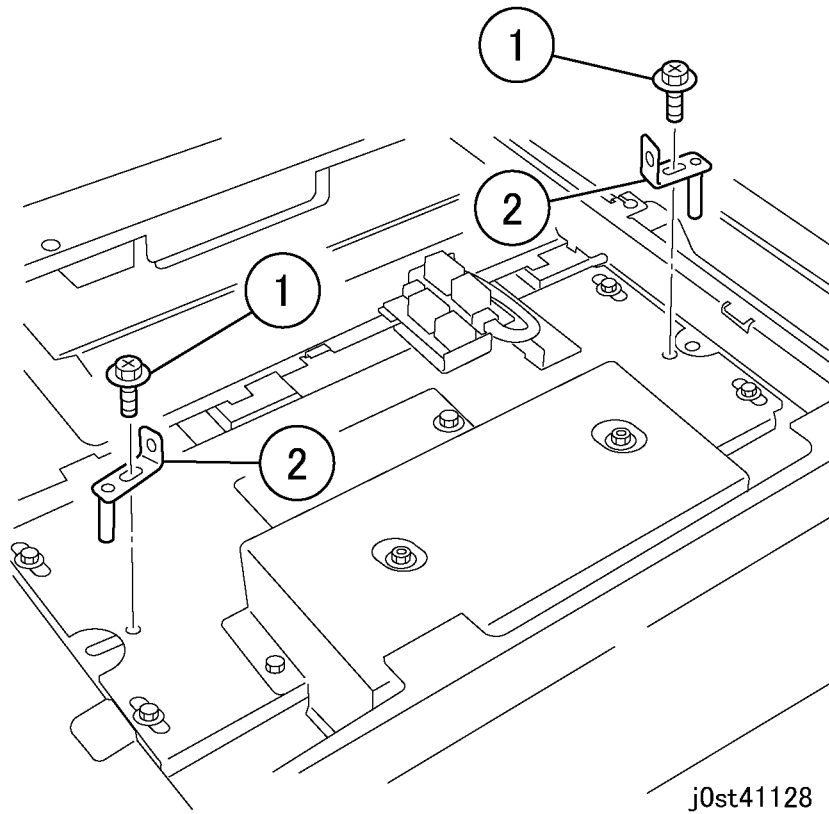

Figure 2 Taking out the tools (j0st41128)
4. Prepare the tools (x2) for determining the position. (Figure 2)